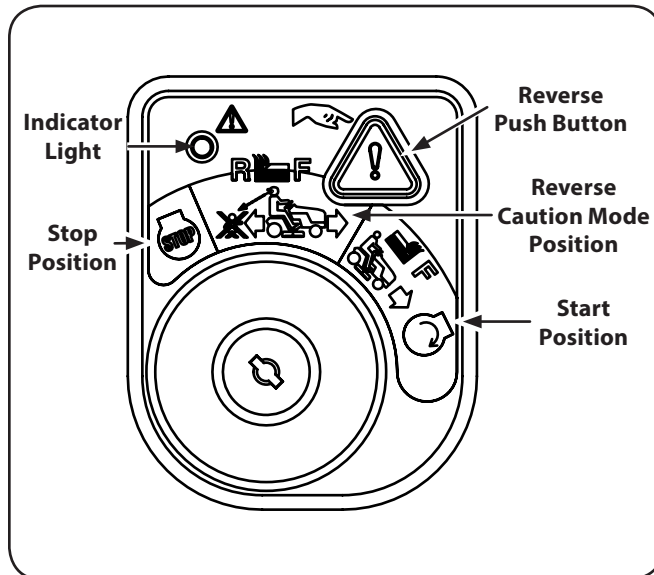

Figure 5-8
2. Turn the key from the NORMAL MOWING  (Green) position to the REVERSE CAUTION MODE  (Yellow) position of the key switch module. See Figure 5-8.
3. Press the REVERSE PUSH BUTTON  (Orange, Triangular Button) at the top, right corner of the key switch module. The red indicator light at the top, left corner of the key switch module will be ON while activated. See Figure 5-8.